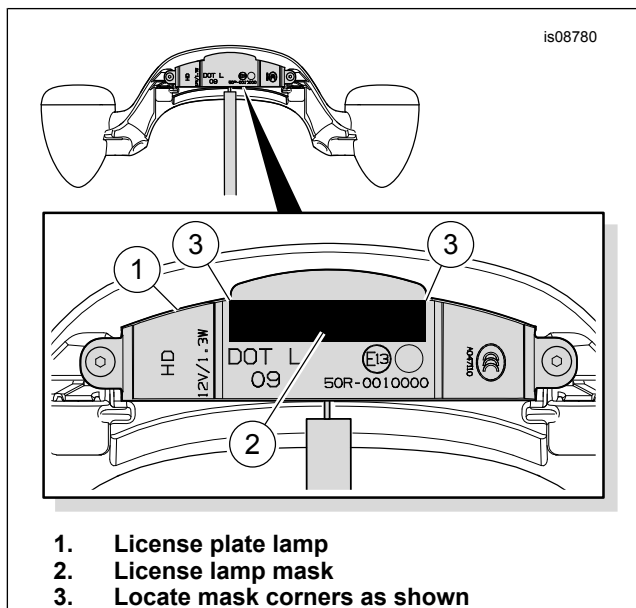

Figure 1. Install License Lamp Mask
3. **2014-later models:** Remove the two screws and washers securing the original equipment (OE) license plate mount and reflector assembly to the light bar. Retain the washers and reflector assembly. **2010-2013 models:** Remove the two screws and washers securing the original equipment (OE) license plate mount to the light bar. Retain the screws and washers.
4. Clean the surface of the OE license plate lamp (B) with a 50/50 mix of isopropyl alcohol and water. Let dry completely.
5. Get the license lamp mask (5) from the kit.
6. Remove the adhesive backing from the mask. See Figure 1. Install the mask (2) onto the license plate lamp (1) as shown.